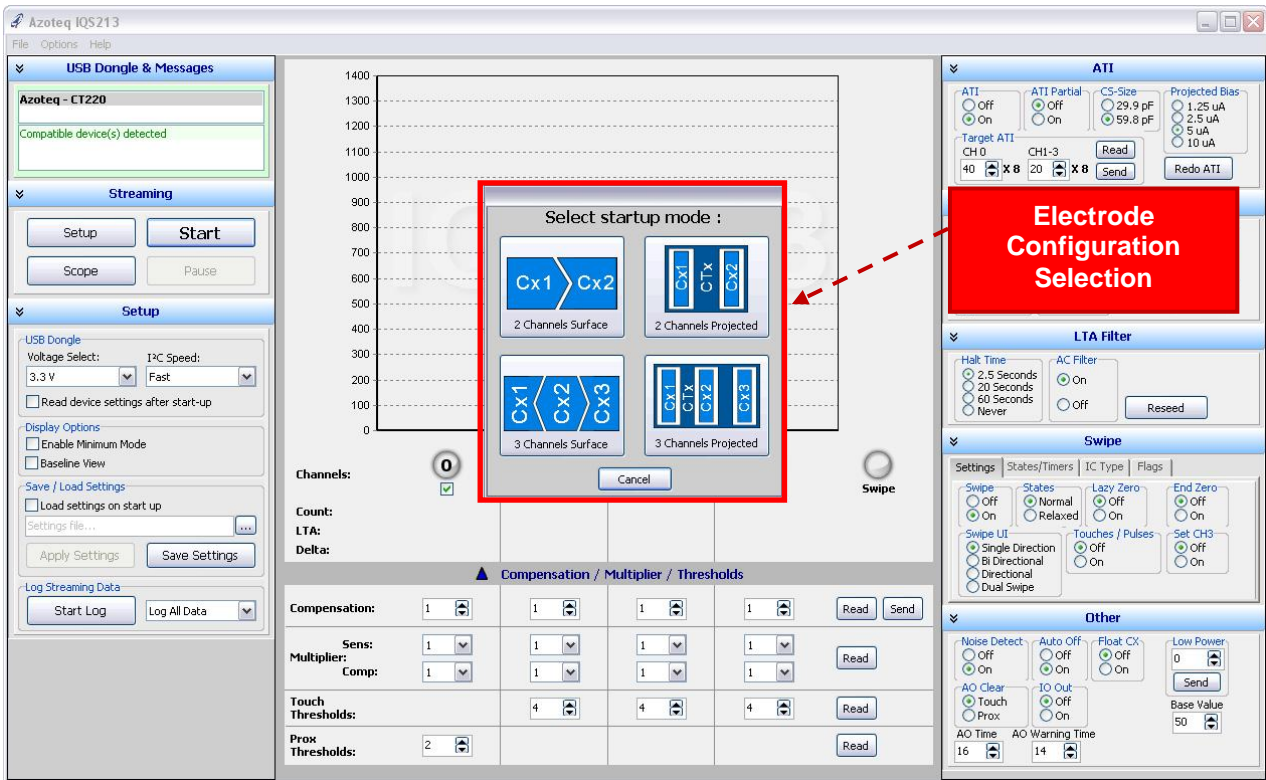

Figure 3.2 IQS213 Electrode Configuration Selection Pop-up window
- ❏ After clicking the “Start” Button, the “Electrode Configuration” pop-up window will appear, as shown in Figure 3.2. Please select the appropriate electrode configuration that match the electrode design connected to your **IQS213** device. The four available options are for 2- or 3-Channel, Self- or Projected capacitive electrode configurations.